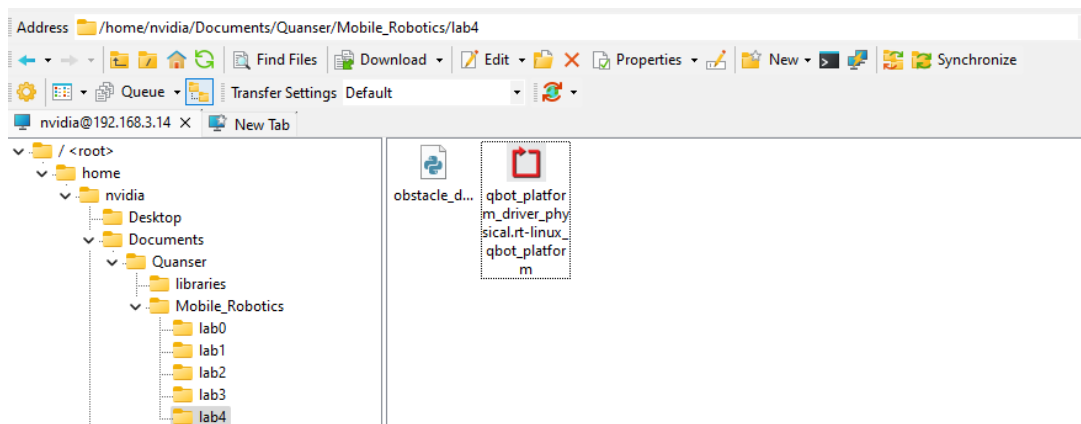

Figure 3. Correct directory for python script
- a. navigate to "~\Documents\Quanser\Mobile\_Robotics" and create a new folder "Lab4", as shown in Figure 3. Then copy the updated obstacle\\_detection.py to "Lab4". In addition, copy the qbot\\_platform\\_driver\\_physical.rt-linux\\_qbot\\_platform over. (You can just drag the files over).